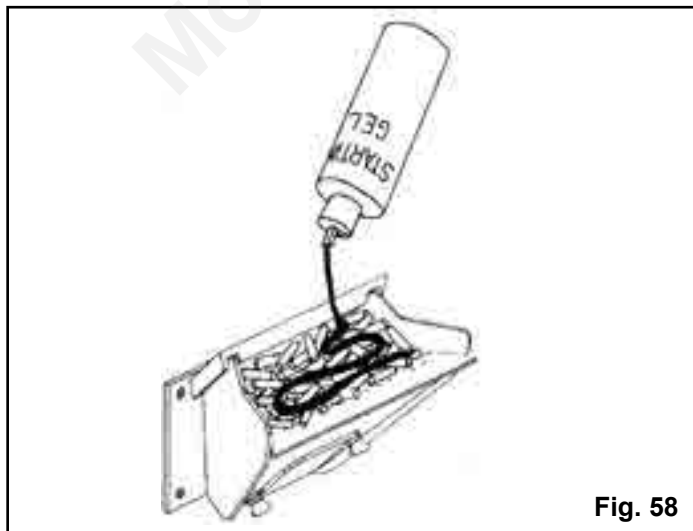

Fig. 58
11. Apply starting gel as shown in Fig. 58.